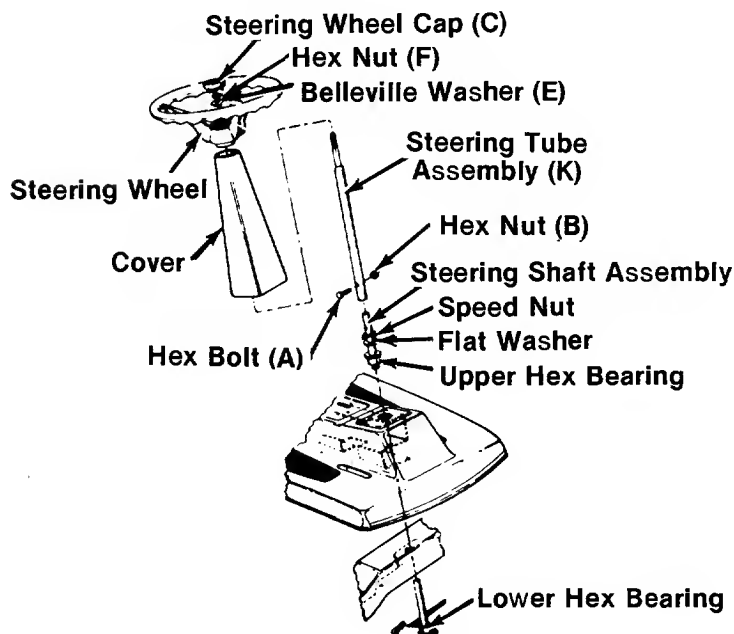

FIGURE 1. STEERING ASSEMBLY
1. Check the upper and lower hex bearings. Be sure they are seated and in position. See figure 1.